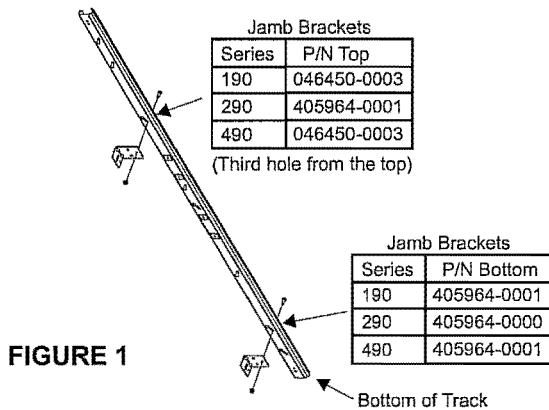

FIGURE 1
- Attach jamb brackets to the vertical track using track bolts, lockwashers and nuts. (See Figure 1)